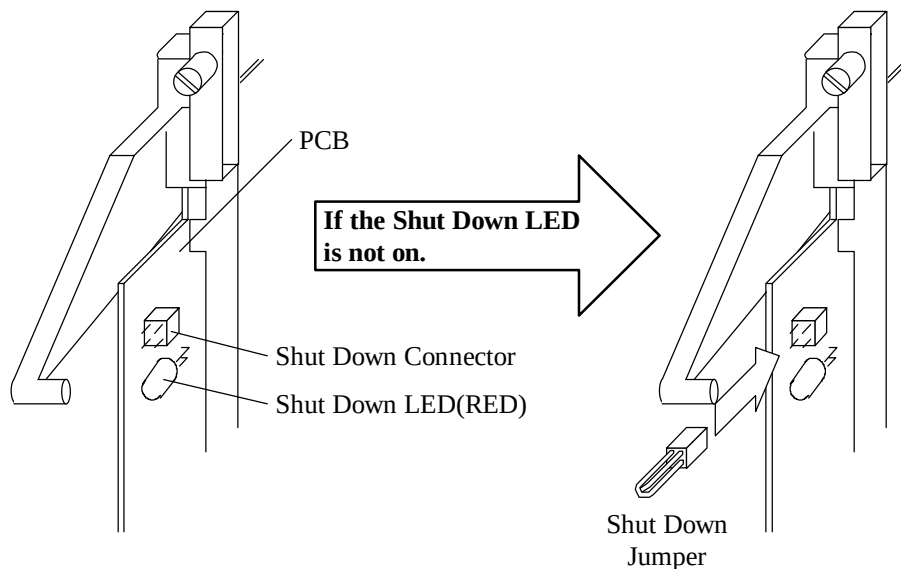

Fig. 4.7.1-1 Shut Down LED
- a. Confirm that Shut Down LED is on.(Fig. 4.7.1-1). If the LED is not on, connect the Shut Down Jumper to the Shut Down Connector.
- Disconnect the CH cables from the Sub-edge connectors on the PCB referring to Table 4.7.1-2, Table 4.7.1-3, and Fig. 4.7.1-2.